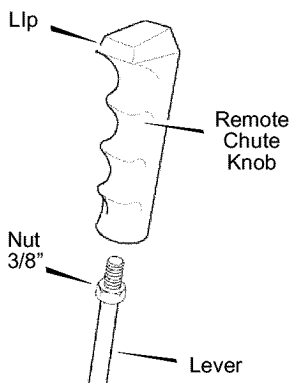

Figure 6
1. Assemble the **remote chute knob** onto the **lever** until snug against the **nut** (see Figure 6).